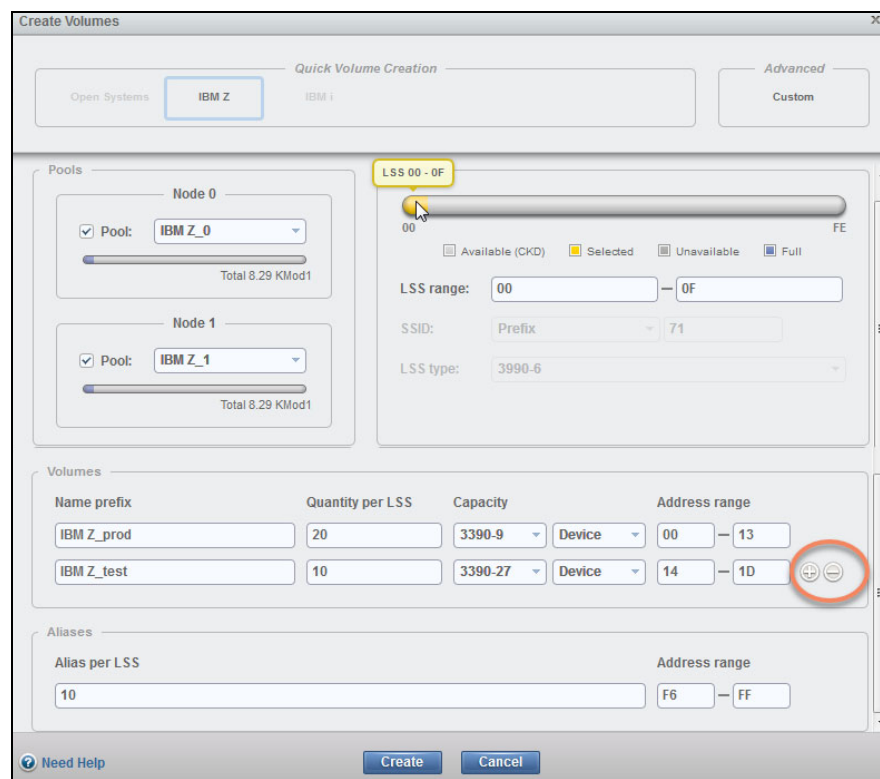
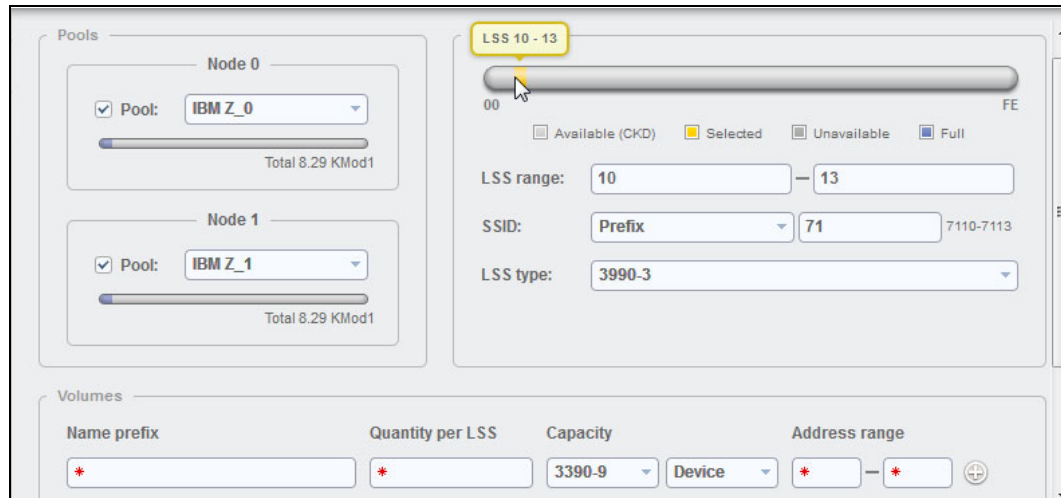

Figure 11-95 Create multiple groups of CKD volumes
Figure 11-96 Specifying a new Range of LSS
2. Select the **Create Volumes** tab. The Create Volumes window opens, as shown in Figure 11-95.
- Determine the LSS range for the volumes to create. In Figure 11-95 on page 341, the already created LSS range of 00-0F is selected. With the release 8.3 of the DS8880 microcode, you can create a new LSS range (10-13) as shown in Figure 11-96.
In the volume creation configuration example that is shown in Figure 11-95 on page 341, two groups of 20 and 10 volumes each are in the LSS ID range of 00 - 0F. Enter a prefix name and a capacity for each group. The capacity can be specified in three ways:
7. Enter the number of **Aliases** per LSS in the same window. See the example in Figure 11-95 on page 341.